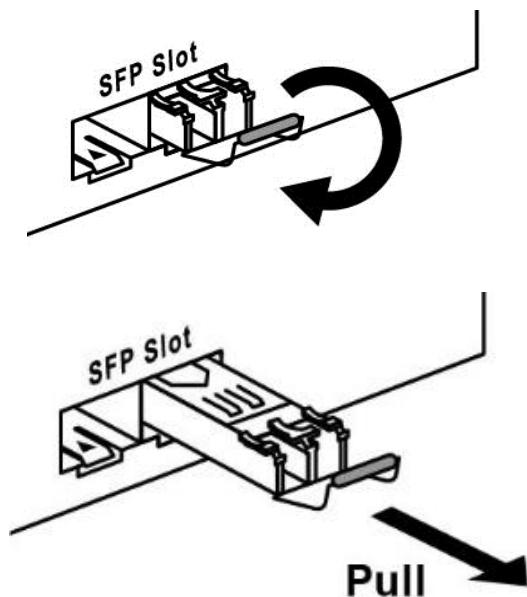

Figure 2.8: Pull Out from the SFP Module
- Step 2 Push down the metal clasp and pull the transceiver out by the plastic part as shown below in Figure 2.8